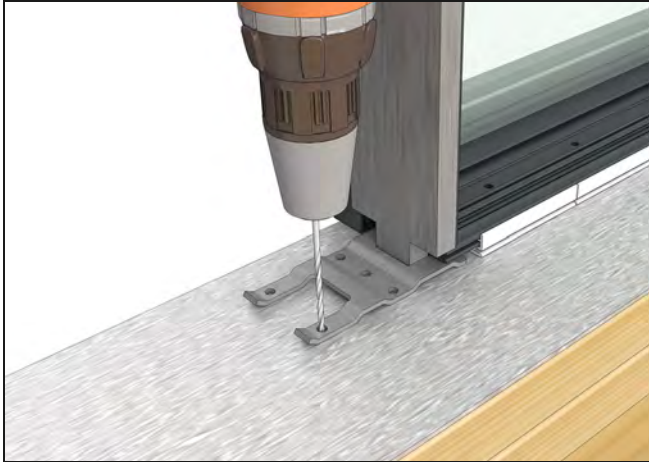
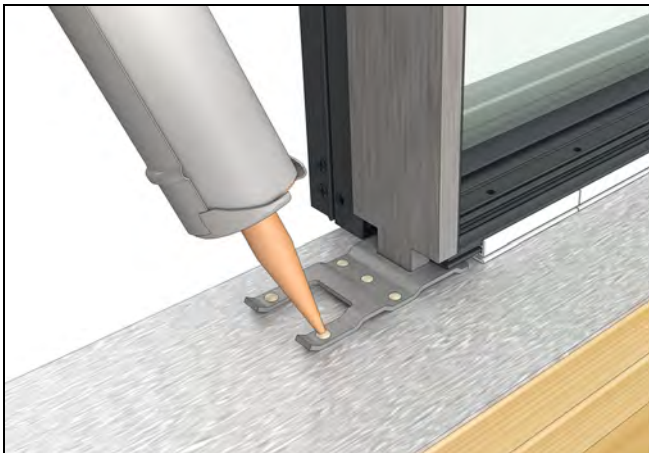

Figure 14
Figure 15
6. Adjust the frame and bracket so it is square in the opening. Fasten the bracket using #10-12 3" T20 Torx pan head 2/3 thread screws or similar depending on the sill material. See Figure 14 and Figure 15.